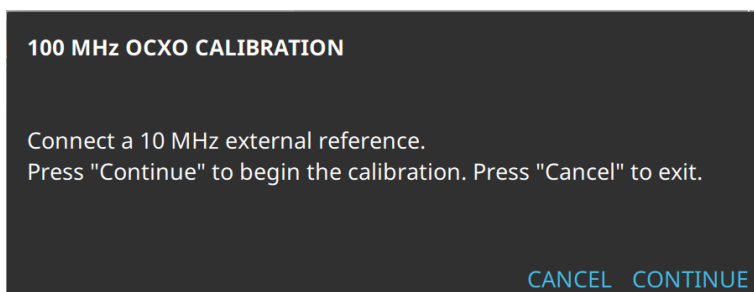

Figure 3-100. 100 MHz Calibration Dialog
2. Press the START CALIBRATION button to display the dialog shown in Figure 3-100.